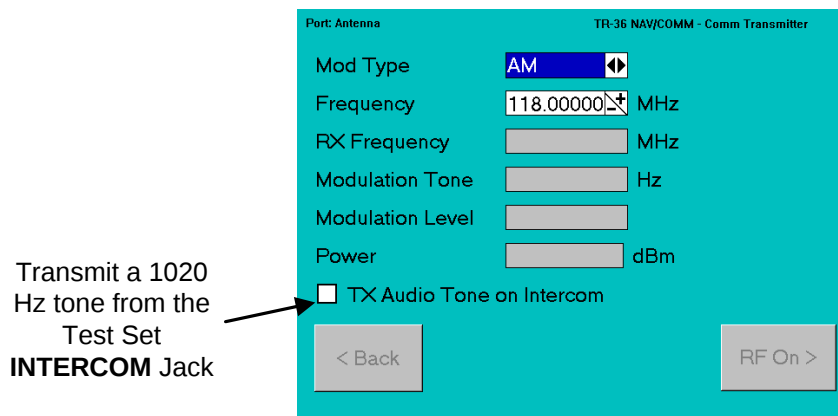

Figure 2-52. Intercom Tone Selection
The AM or FM audio of the transmitted signal can also be monitored by using a standard aviation headset plugged into the Test Set **HEADSET** connector on the front panel (Figure 2-52).
4. If the transceiver under test does not have a tone generator source, the operator can select **TX Audio Tone on Intercom** (Figure 2-52) to inject a 1020 Hz tone from the Test Set **Intercom** connector to the transceiver audio input.